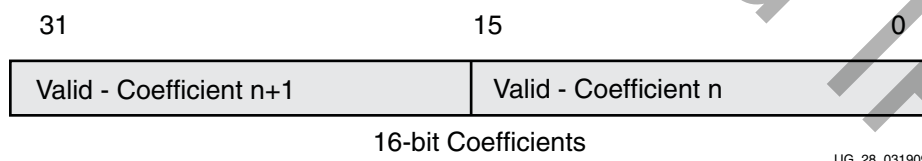

Figure 3-6: Coefficient Write-Format on `coef_data_in(31:0)`
The 32-bit input word loaded via the `coef_data_in` register always holds two coefficients. The scaler supports 16-bit coefficient bit-widths. The word format is shown in Figure 3-6.
- `coef_data_in` delivers two coefficients per 32-bit word. The lower word (bits 15:0) always holds the coefficient that is applied to the latest tap (the right-most or lowest). The word format is shown in Figure 3-6.
- **For YC4:2:2 or YC4:2:0**, when not sharing coefficients across H and V operations or across Y and C operations, one bank of luma (Y) and chroma (C) coefficients must be loaded into the FIFO **for each dimension** before they can be streamed into the coefficient memory. When sharing coefficients across H and V operations, it is only necessary to write coefficients for the H operation. Also, when sharing coefficients across Y and C operations, it is only necessary to write coefficients for the Y operation. This process is permitted to take as much time as desired by the system. This means that worst case, for a 12H-tap x 12V-tap 64-phase filter, you need to write 6 times per phase. If you have specified separate H and V coefficients and separate Y and C coefficients, this is a total of **1536** write operations per set.